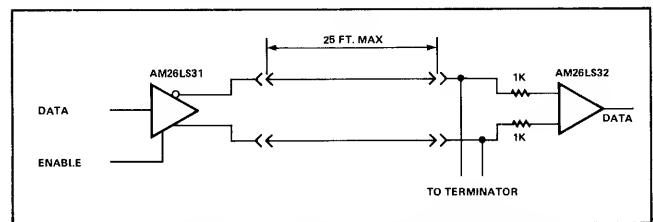

Figure 3-31. Differential Line Drivers and Receivers
3.19.13 +, – WRITE DATA. WRITE DATA is an NRZ serial data signal synchronous with WRITE CLOCK. WRITE DATA is received by an RS422 type differential line receiver as shown in Figure 3-31. The DC characteristics are listed in Table 3-6.
3.19.15 +, – READ/REFERENCE CLOCK. This square wave signal provides clocking and synchronization for reading and writing data. It is derived from either the servo clock or the VFO synchronized to the READ DATA signal. It is driven by an RS422 type differential driver, as shown in Figure 3-31. The DC characteristics are listed in Table 3-7.
3.19.16 +, – READ DATA. This serial NRZ signal is used to transmit data from the drive to the controller. This output is valid 9 microseconds after READ GATE is enabled. It is driven by an RS422 type differential drivers, as shown in Figure 3-31. The DC characteristics are listed in Table 3-7.